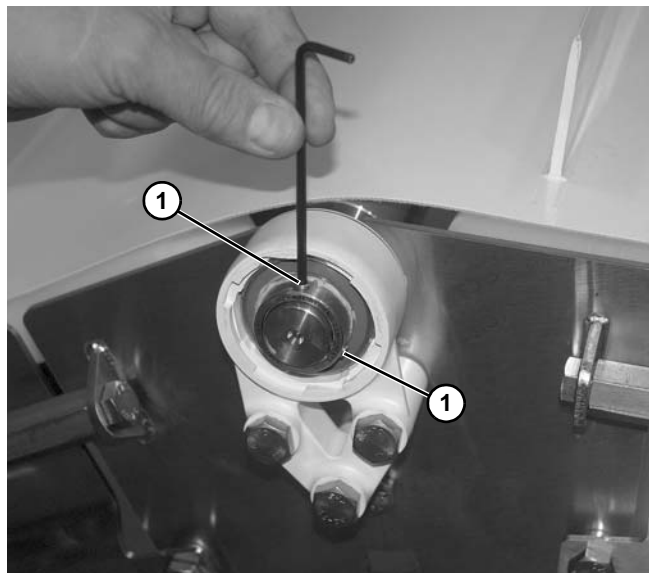

Figure 194
2. Using a hex key wrench, loosen two set screws (Figure 194, item 1) on bearing.